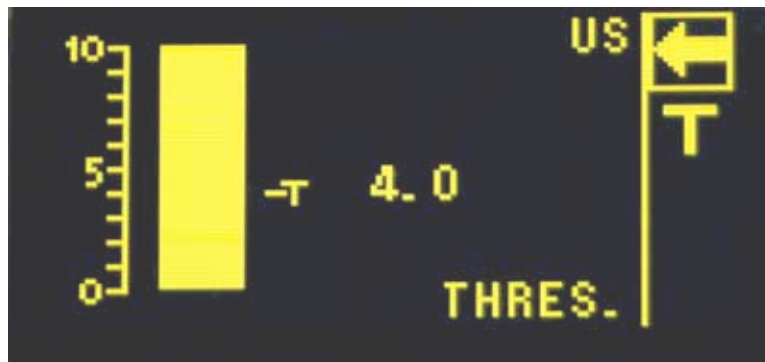

Figure 10. THRES. Screen
- H) Threshold setting marker (adjustable via the “**THRES.**” screen in Figure 10 below)
1. select “Threshold” from the “SETTINGS” screen to go to the “**THRES.**” screen (see Figure 10)
4. roll ball up/down to the desired level by observing both position of the “--*” cursor and the numerical field to its right (displaying “4.0” in Figure 10)